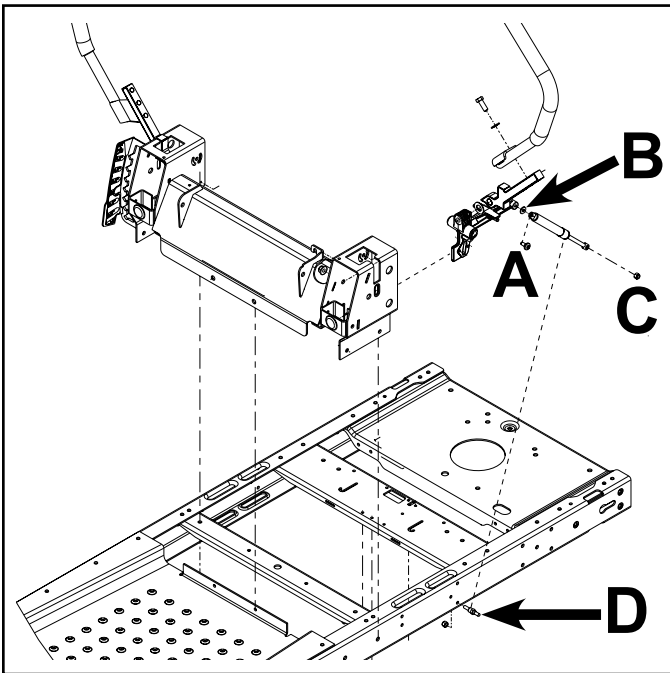

Fig. 031
2. Remove the (1) shoulder bolt (A) and washer (B) that secures the upper motion control damper eyelet to the actuator arm (Fig. 031).